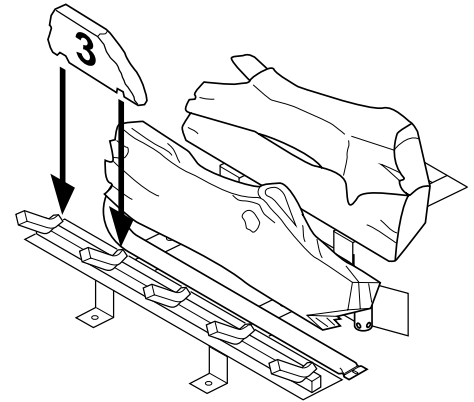

Figure 49 - Installing Log No. 3
4. Place log #3 (left piece) onto the front left part of the grate. Make sure it is seated properly over the prong of the grate as shown in Figure 49.